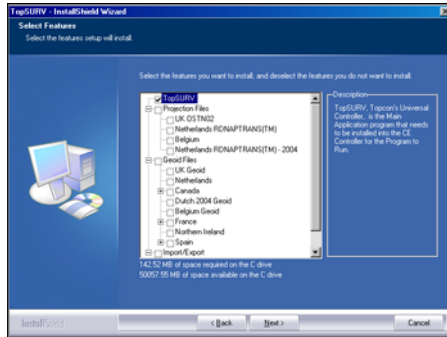

Figure 1-4. Select Features to Install
8. Select the features to install (Figure 1-4) and click **Next**.